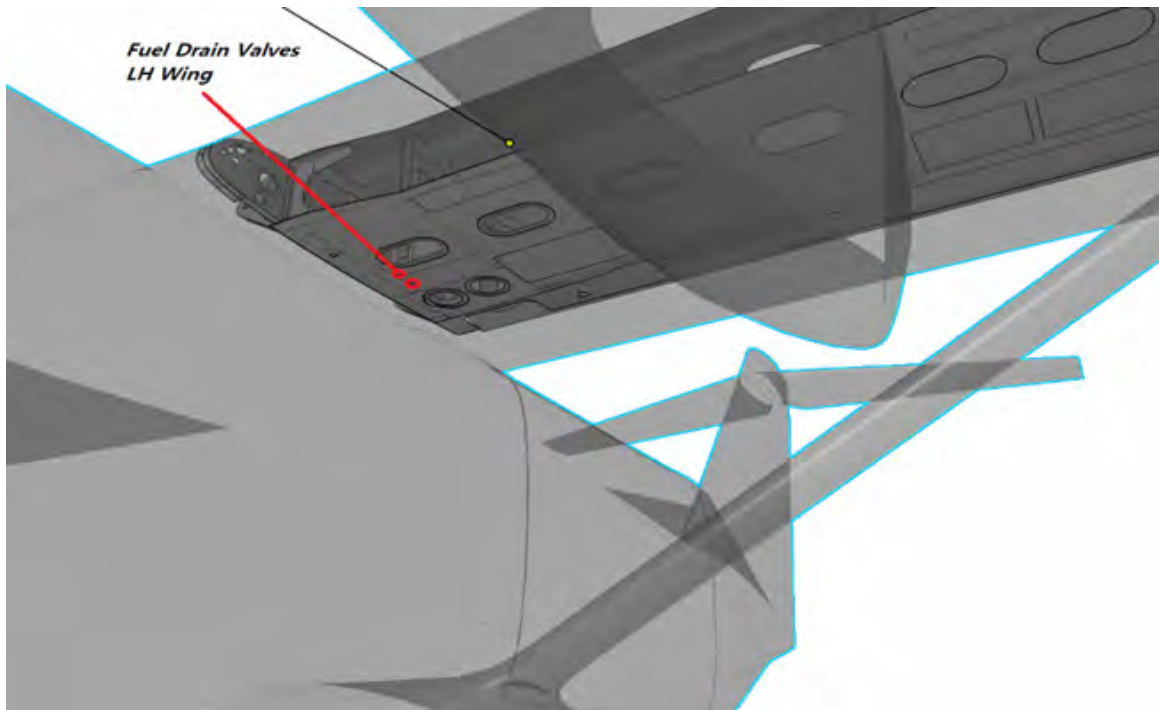

Figure 7
- (l) Make sure that all the drain valves are closed. Reference Figure 7.